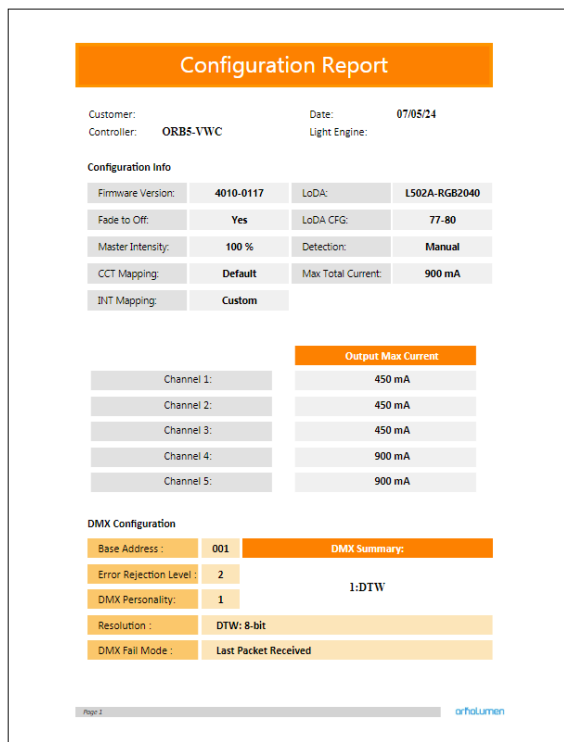

Figure 19 Example of the first page of a generated report
5. Click **Generate Report**, the default web browser will open and display a preview of the print (shown in Figure 19).